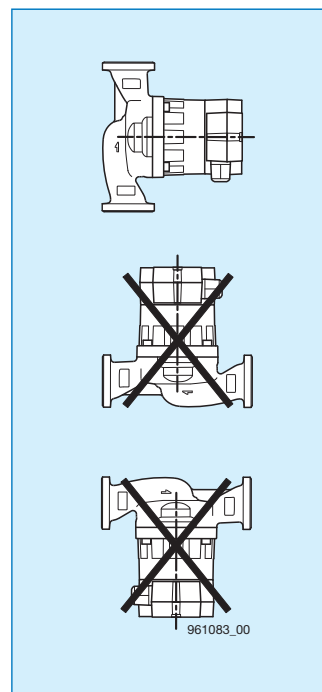

Fig. 4: Fitting pump
Factors according to fig. 4:
- Fit pump so that the motor shaft is horizontal, regardless of the position of the pump casing (fig. 4)